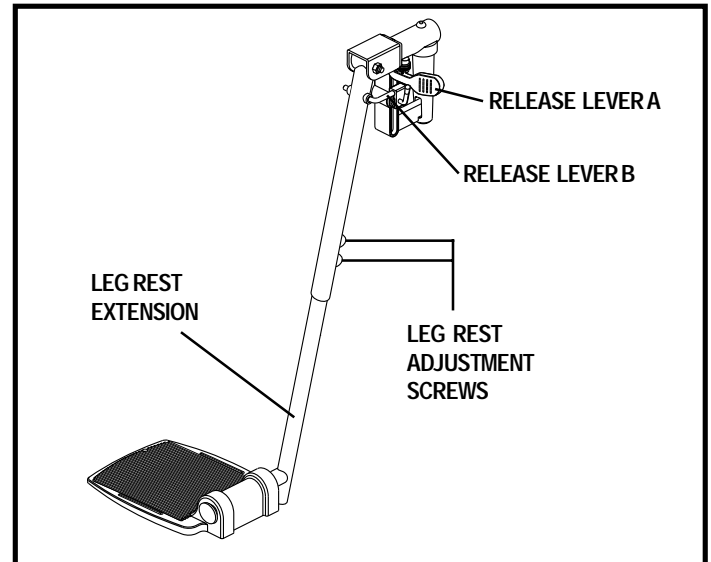

Figure 25. Elevating Leg Rests
1. Push in release lever A. See figure 25.
1. Remove the two adjustment screws from the side of each leg rest extension. See figure 25.
1. Push down release lever B. See figure 25.